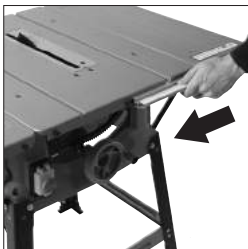

Fig. 12
- Slide the fence rail over the seven protruding bolt heads (Fig. 12) until the fence rail is central across the front of the machine and finger tighten the bolts.